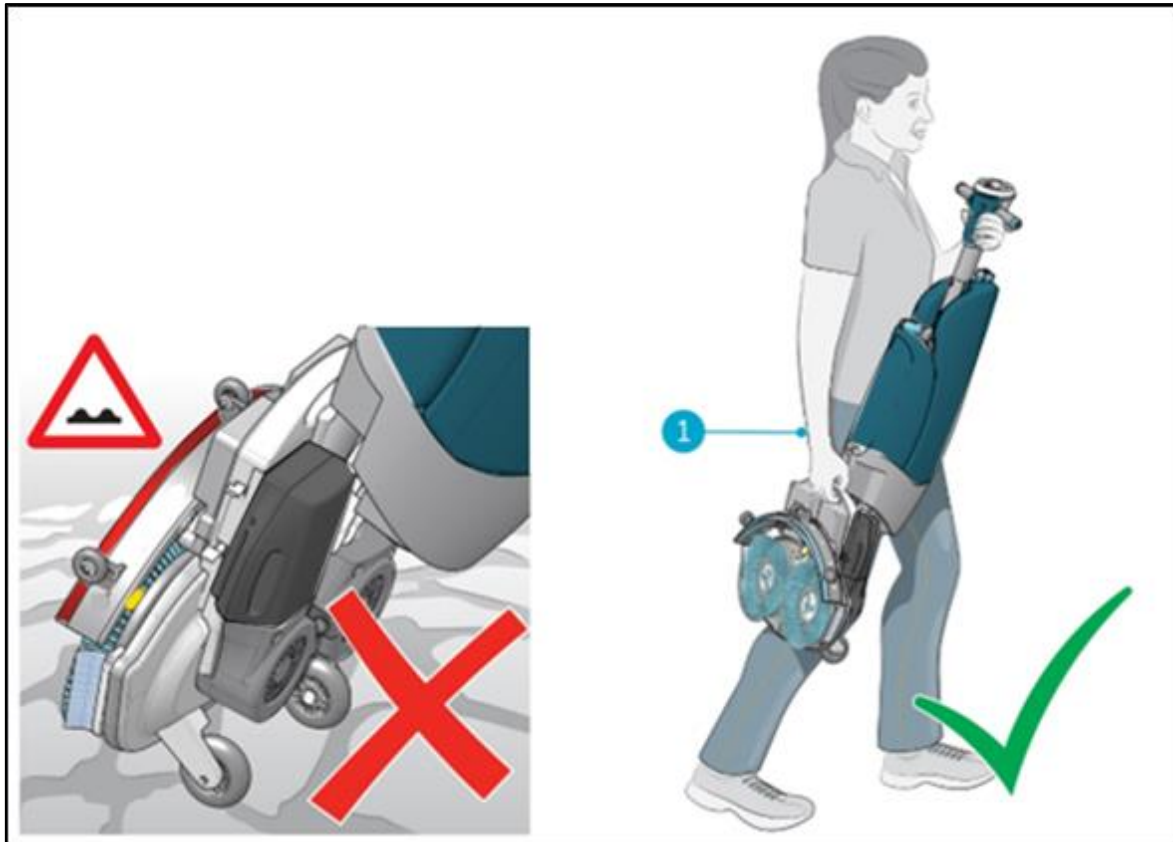

Figure 7
2. Carry the i-mop® XXL with one hand while holding the handle (Figure 7, pos 1) with your other hand.